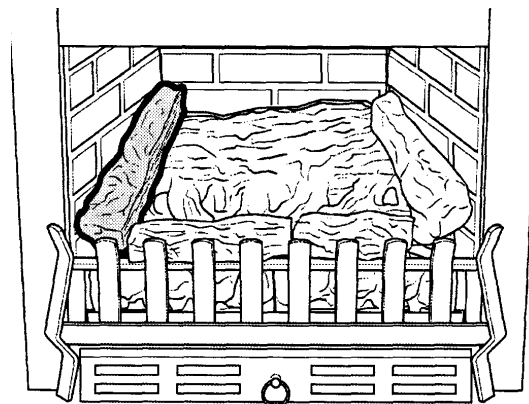

Figure 13 First "C" log position
- Take a 'C' log and position as shown in figure 13. Ensure the bark effect of the log is facing towards the sidewall, and the thinner end of the log is at the back corner of the firebox.